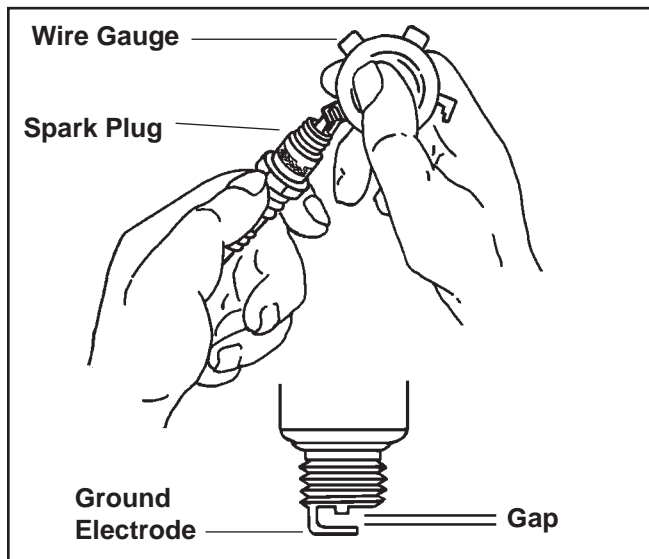

Figure 10. Servicing Spark Plug.
3. Check the gap using a wire feeler gauge. Adjust the gap according to the chart by carefully bending the ground electrode. See Figure 10.